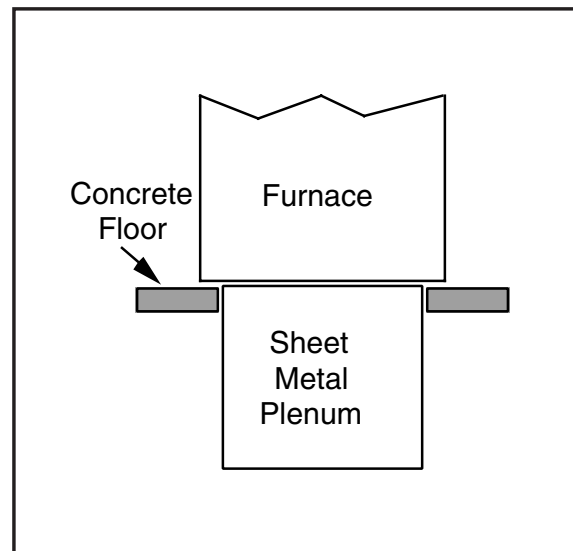

Figure 6. Furnace on a Concrete Slab
2. Place the plenum and the furnace as shown in Figure 6.